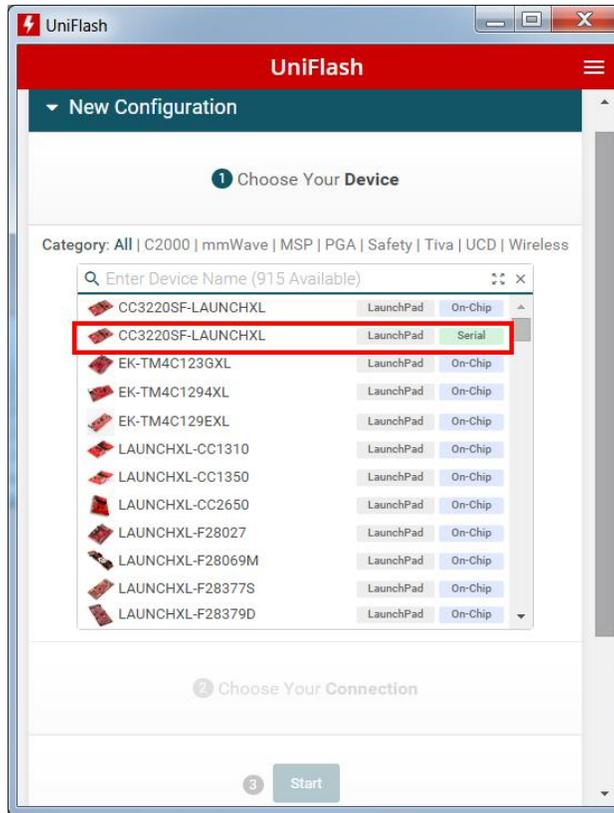

图 15. Select CC3220 Device
2. On the *Choose your Device* section, select `CC3220SF-LAUNCHXL`. Make sure the *Serial* option is selected and not *On-Chip* as shown in 图 15. Click on the *Start Image Creator* button.